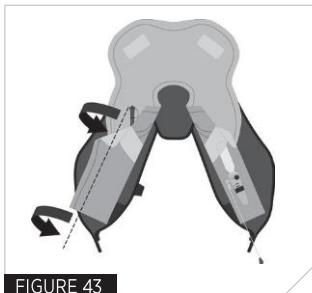

FIGURE 43
8. Fold and tuck outside edge under along fold line 8 (Fig 43).